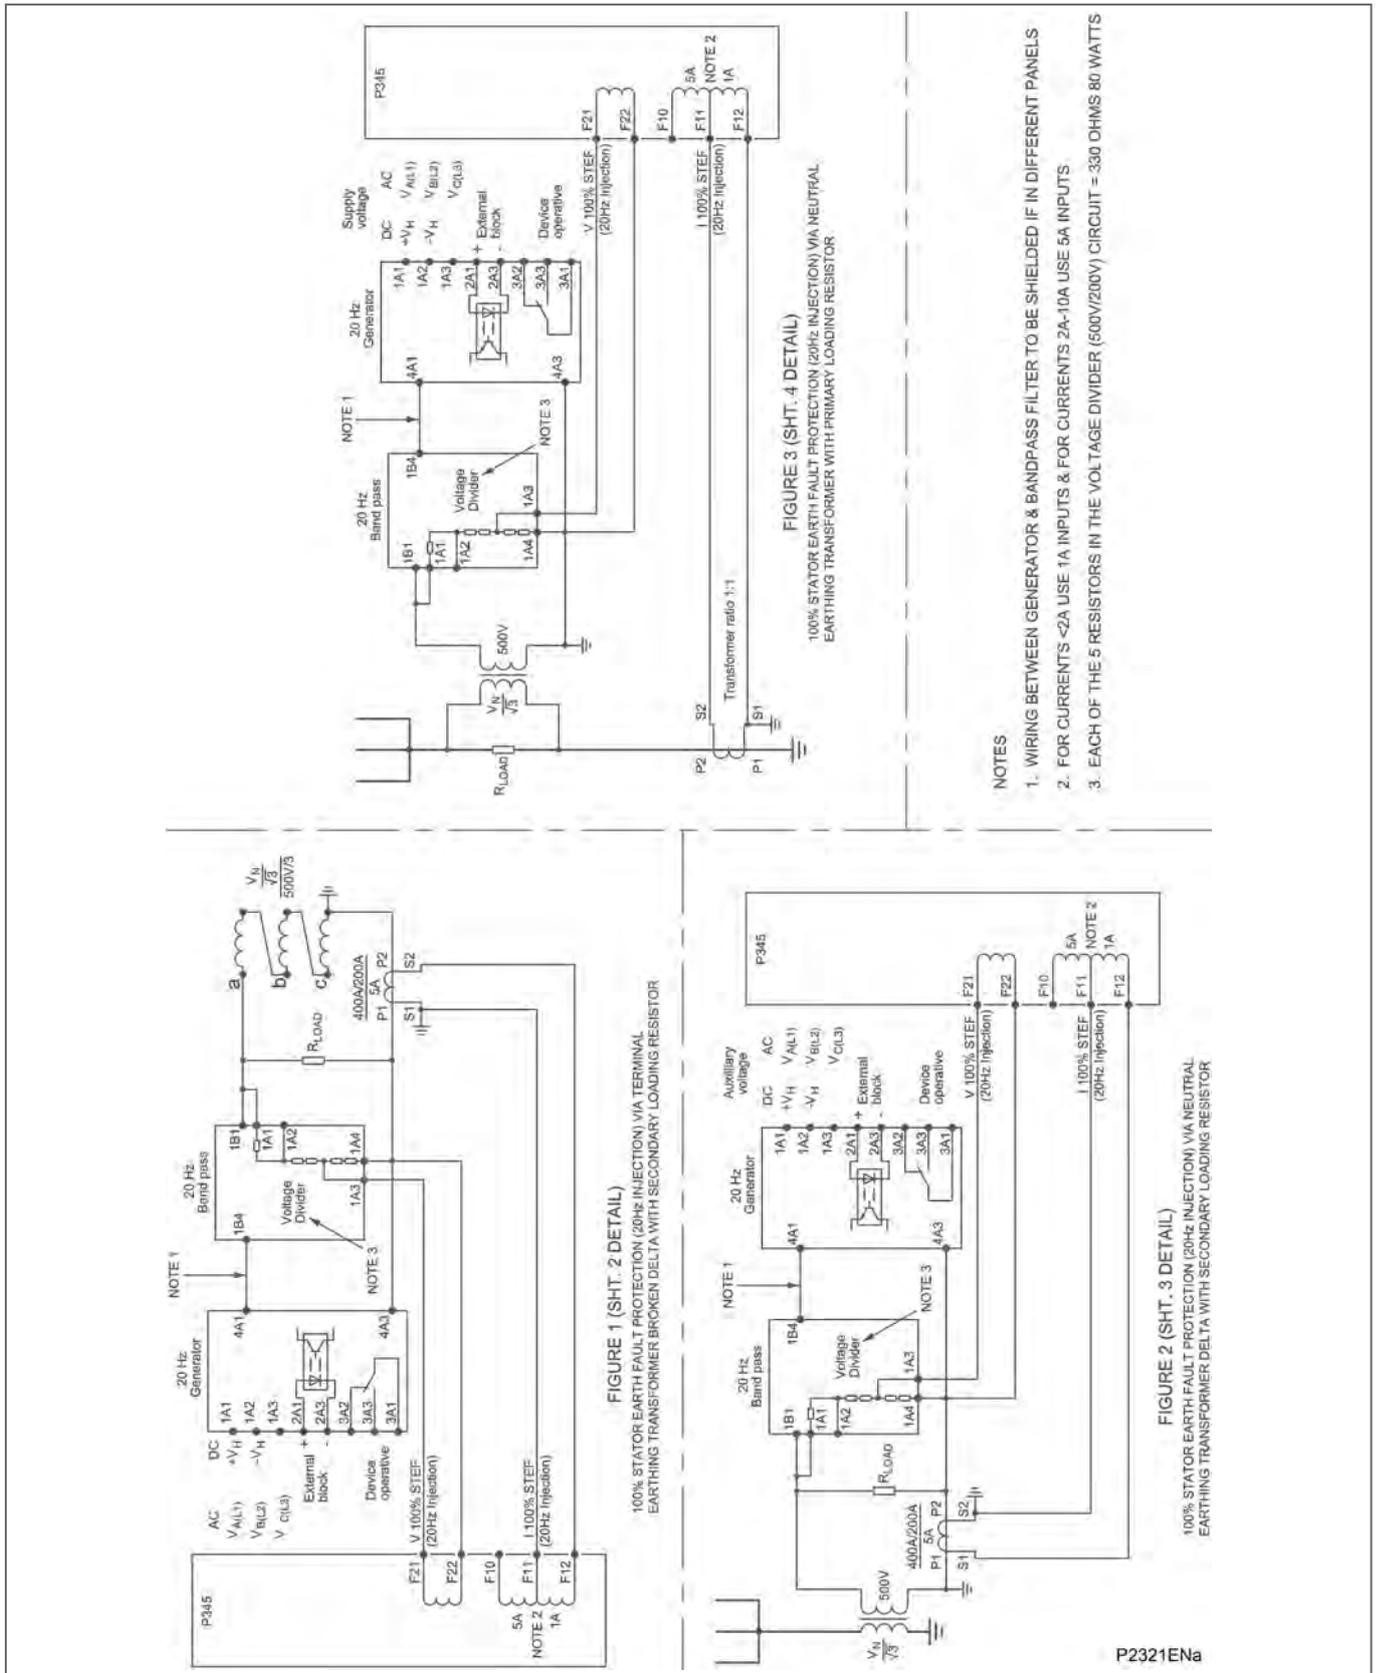

Figure 85 - P345 (80TE) 100% stator earth fault via low frequency injection configurations
- Figure 85 - P345 (80TE) 100% stator earth fault via low frequency injection configurations